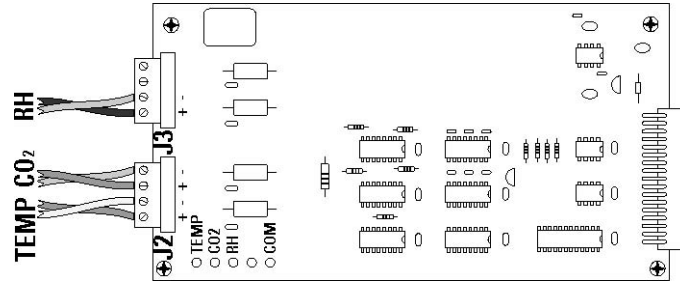

Figure 6-4. Board Conductors
- Each system monitored (Temp, CO₂, RH) requires two conductors (Refer to Figure 6-4). Feed the wires through the auxiliary wire through-port (see above) on the back panel. This port is a circular fitting adjacent to the remote alarm and RS485 connectors.
- Strip the ends of each conductor and wire it to the appropriate terminals of connectors J2 and/or J3 on the analog board. (Refer to Figure 6-4.)